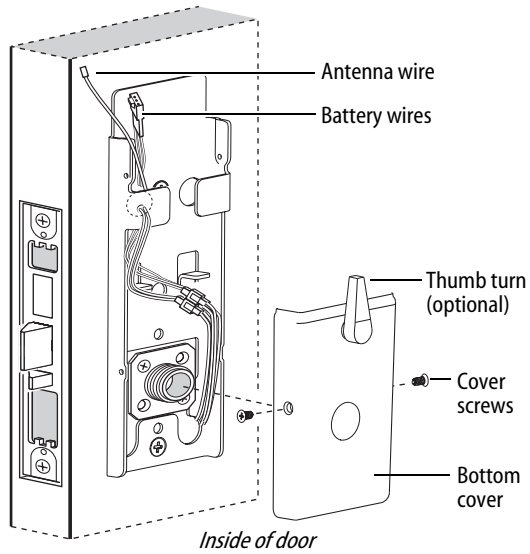

Figure 13 Installing the bottom cover
- 1 Position the battery wires above the side tabs and against the side of the fire plate, as shown in Figure 13.
- 2 **Optional for Thumb Turn option only:** Make sure that the Thumb Turn is in the upright position, as shown in Figure 13.